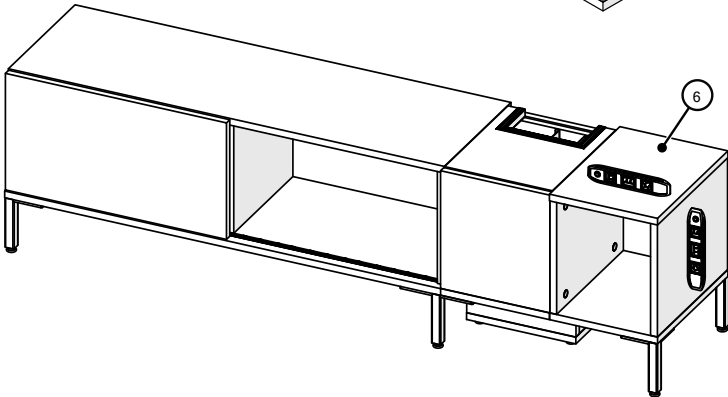

Figure 4
5. Level/align the end box from front to back and side to side by rotating the adjustable glide counterclockwise to extend the glide and raise the storage unit, (Figure 4).